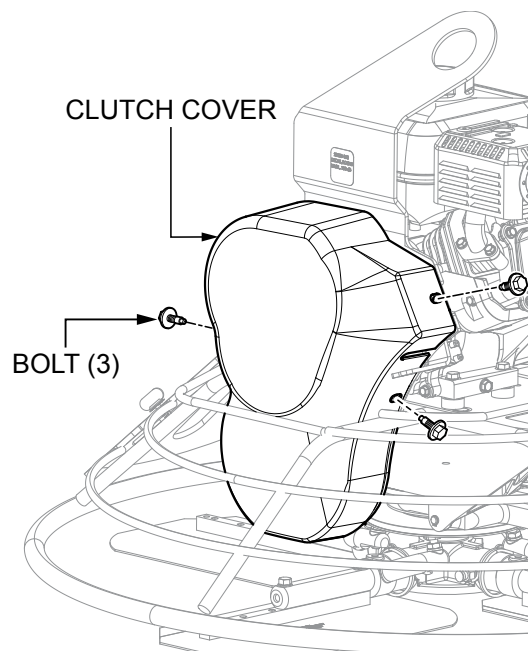

Figure 13. Clutch Cover Removal
- Using a 7/16" wrench, remove the three 1/4" retaining bolts that secure the clutch cover to the frame (Figure 13).